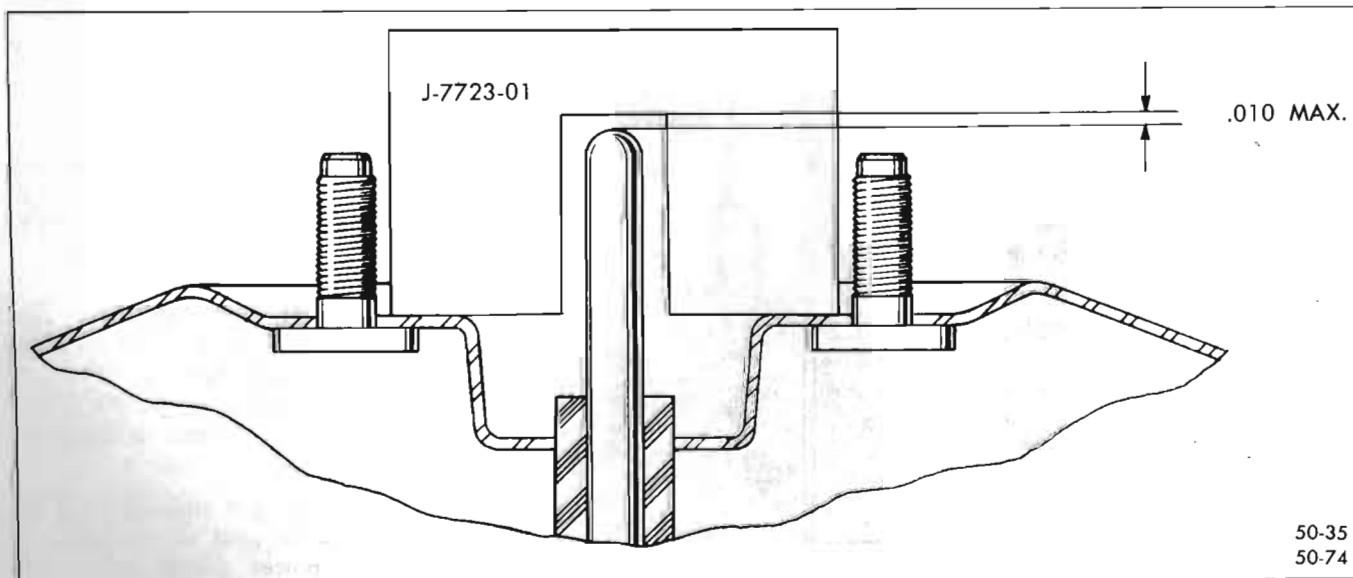

Figure 50-35—Gaging Master Cylinder Push Rod
2. Place Gauge J-7723-01 over the piston rod so that it fits between the two studs on the front housing. It should be parallel to the studs and resting on the surface of the housing. The cutout portion of the gage should never be lower than the end of the piston rod and the gap between the cutout in the gage and the end of the piston rod should never be more than .010 inch. See Figure 50-35.